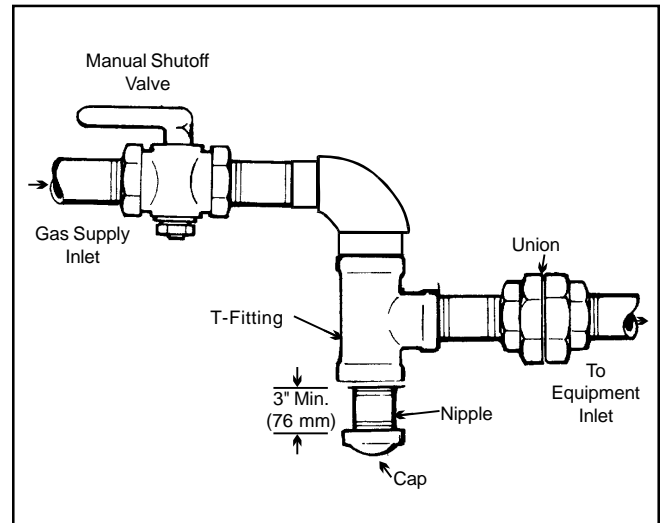

Figure 5. The proper design for a sediment trap / drip leg.
5. Install a sediment trap (drip leg) ahead of the gas controls (see Figure 5). Fit the trap with a threaded cap which can be removed for cleaning.